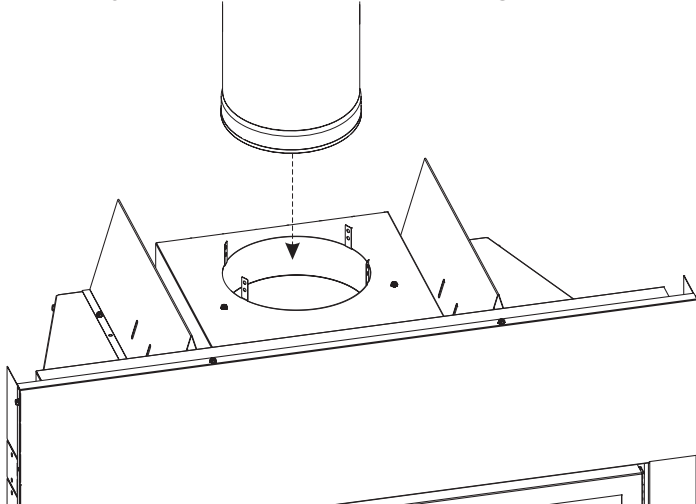

Figure 23
2. Insert the first piece of pipe and secure with four screws through the tabs and into the pipe. See Figures 23 and 24.